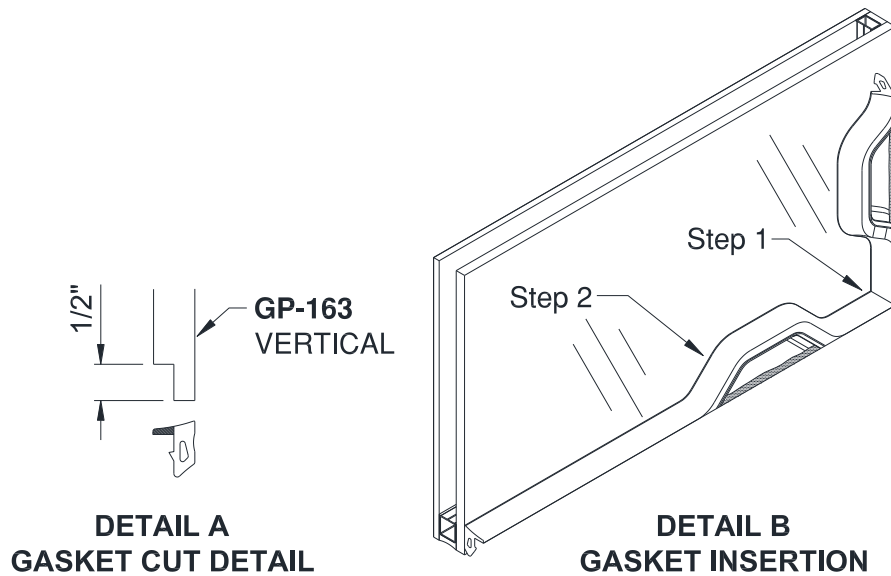

Figure 48: Wedge Gasket Notching and Installation
- 15.5.1 Verify the vertical **GP-163** Wedge Gasket is cut to specification in *Section 3.0* to provide adequate compression. Notch both ends of the gasket as shown in *Figure 48, Detail A*.
- 15.5.3 Insert Wedge Gasket first in the corners and then the middle of the D.L.O., compressing toward the corners. Reference *Figure 48, Detail B*.